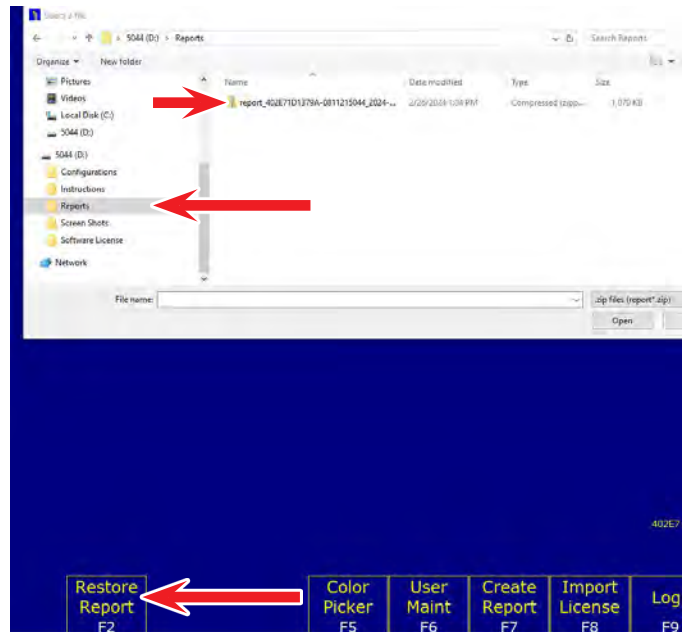

FIGURE 9
- Click on Restore Report F2. Open the File Explorer, USB Flash drive, and Report file. In the report file you will see the report that we made for your control when we tested it. Click on the report file and click on Open (see Figure 9).